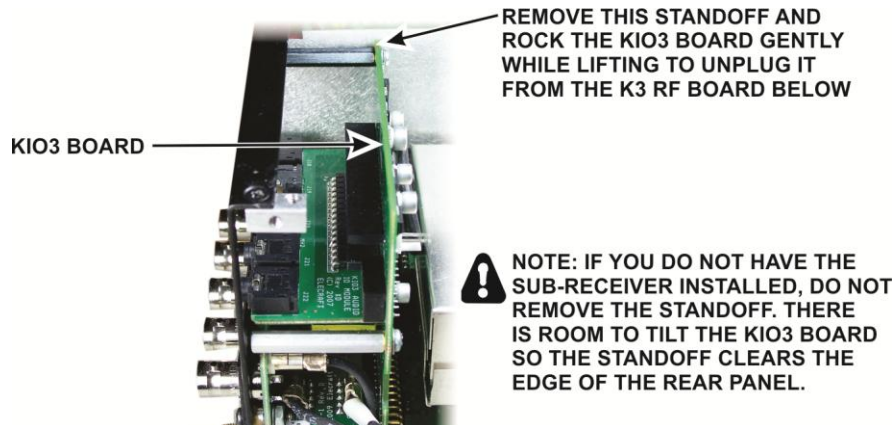

Figure 8. Removing the KIO3 Board.
- ☐ Remove the KIO3 board as shown in Figure 8. The pony board carrying the audio connectors can remain plugged into the KIO3 board.
Plug the KIO3 board into J16 on the K3 RF board (Figure 8, pg 5) and, if you removed it, the top standoff using a 1/4" (6.4mm) zinc pan head screw and lock washer.